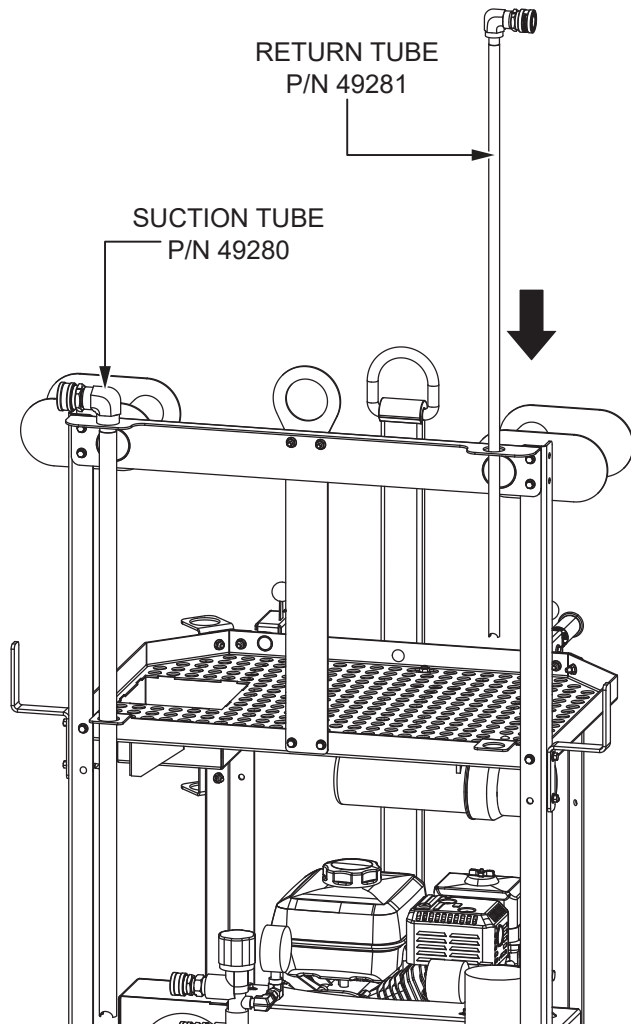

Figure 17. Tube Installation
1. Insert the suction tube (P/N 49280) and return tube (P/N 49281) through the tube holders in the hose wrap and tool tray as shown in Figure 17.